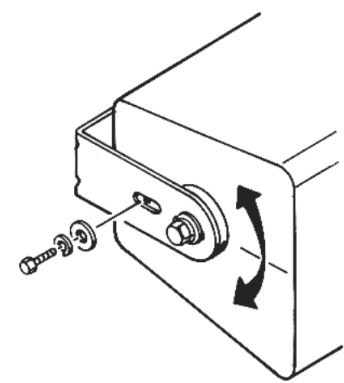

Figure 2
Step 4. Rotate the loudspeaker into the desired direction then tighten the side bolts permanently. To permanently set the speaker angle, insert the included lag bolts through the unused arm slots and into the loudspeaker cabinet. (See figure 2)